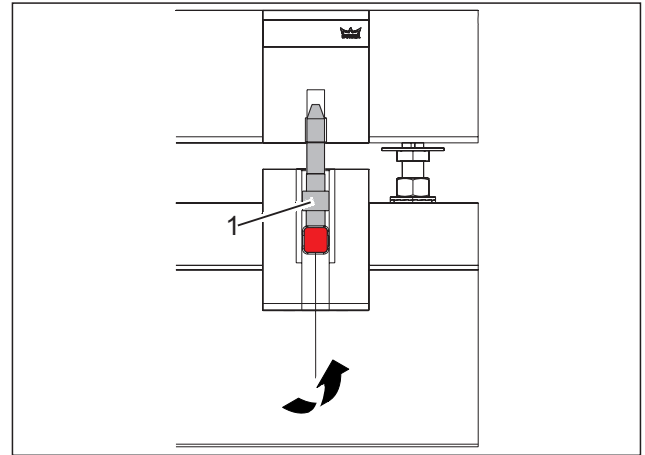

Fig. 6 Locking bolts
1. Use a crank handle (Fig. 6/1) to loosen the locking bolts by approx. $\frac{3}{4}$ of a turn.